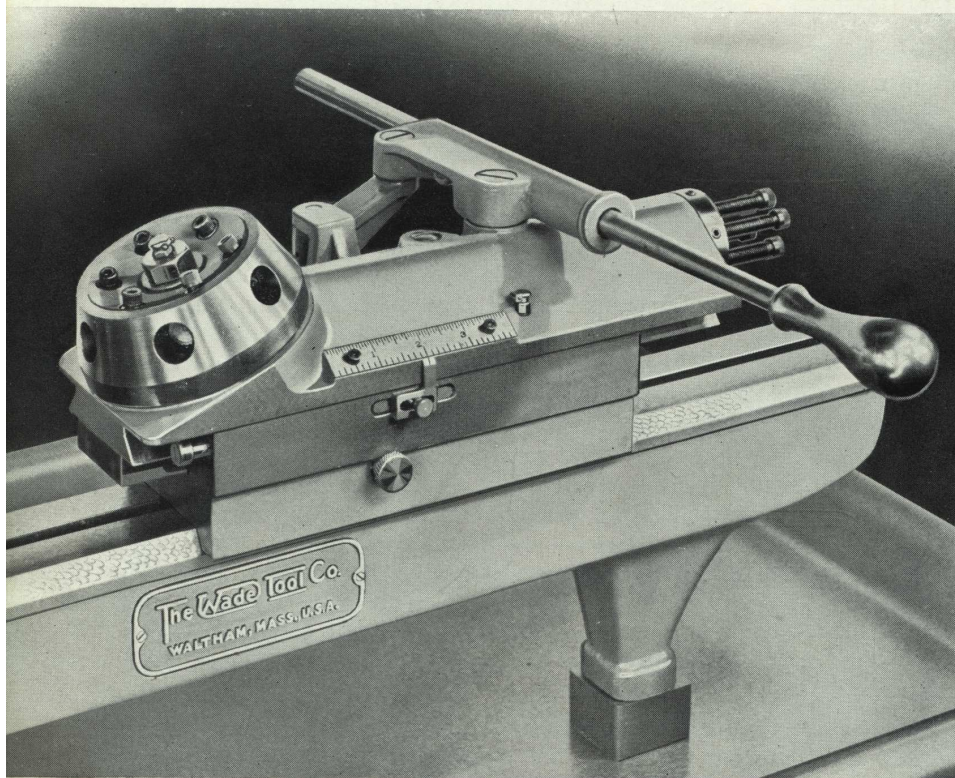

Fig. 9 — The Turret Assembly
- ★ A scale on the slide simplifies setting of the automatic stops when setting tools. Pointer on scale is adjustable so that it can be set at "0" or wherever convenient, Fig. 9.
THE TURRET: The six-station turret, Fig. 9, has a tilted head in order to clear tools as they are indexed. The holes in the turret head are each $\frac{3}{4}$ " diameter to take standard tools with $\frac{3}{4}$ " shanks. The six independent adjustable stops index automatically with the turret head. Operation of the hand lever automatically unlocks the turret head, indexes it to the next station, and clamps it. When the ram is flush with the front of the turret base, the turret head may be revolved freely — in either direction — to any desired tool position. This allows skipping some of the turret stations or turning back to a previously used tool with a minimum expenditure of time and effort.